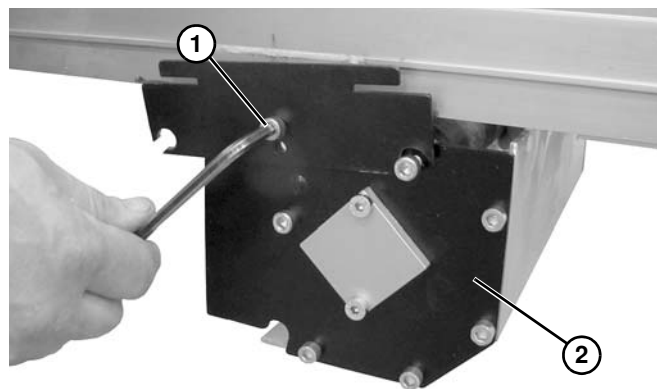

Figure 55
5. Loosen screw (**Figure 55, item 1**) on both sides of the conveyor to remove center drive module (**Figure 55, item 2**).